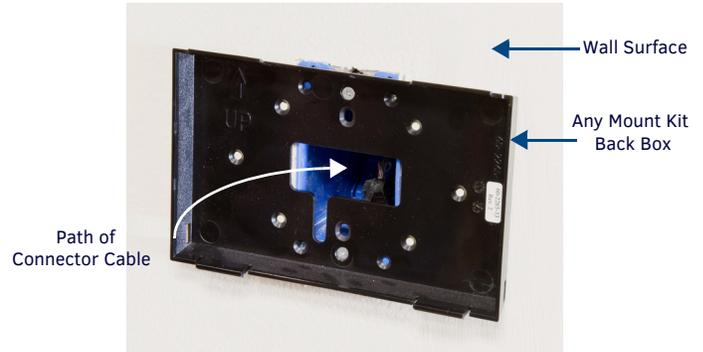

FIG. 4 MSA-AMK/2-701 Any Mount Kit back box, path of connector cable
- Make certain that the path of the RJ-45 connector cable goes straight through the center hole in the Any Mount Kit back box (FIG. 4). Insure that the connector cable will not fold up or bind in the slot below the center hole.